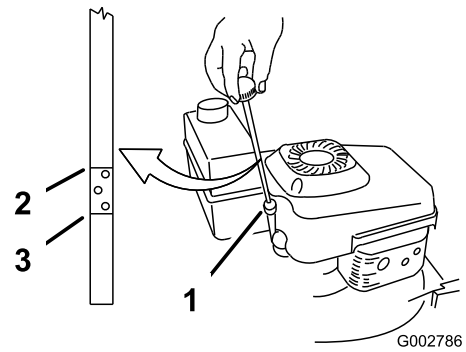

Figure 13
Before each use, ensure that the oil level is between the Add and Full marks on the dipstick (Figure 13).
2. Clean around the dipstick (Figure 13).
6. Remove the dipstick and read the oil level on the dipstick (Figure 13).